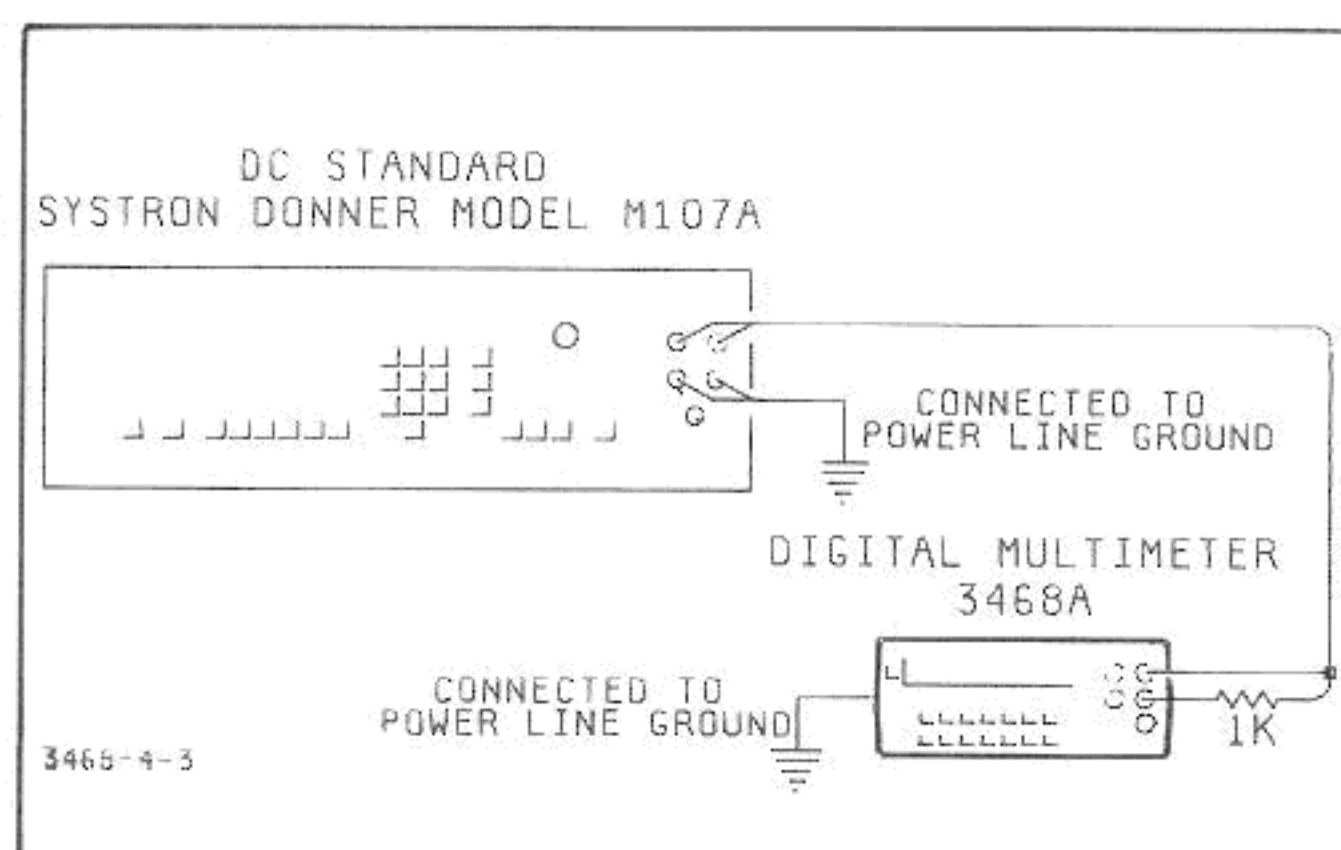

Figure 4-3. DC Common Mode Rejection Test
r. (Step #16.) Select the 3468A's 5 Digit Display mode by pressing the blue Shift button and then the Downrange (5) button.
4. With the DC Volts Standard's output off, connect the standard to the 3468A as shown in Figure 4-3.
- i. Connect the AC-DC Current Calibrator to the 3468A as shown in Figure 4-3.